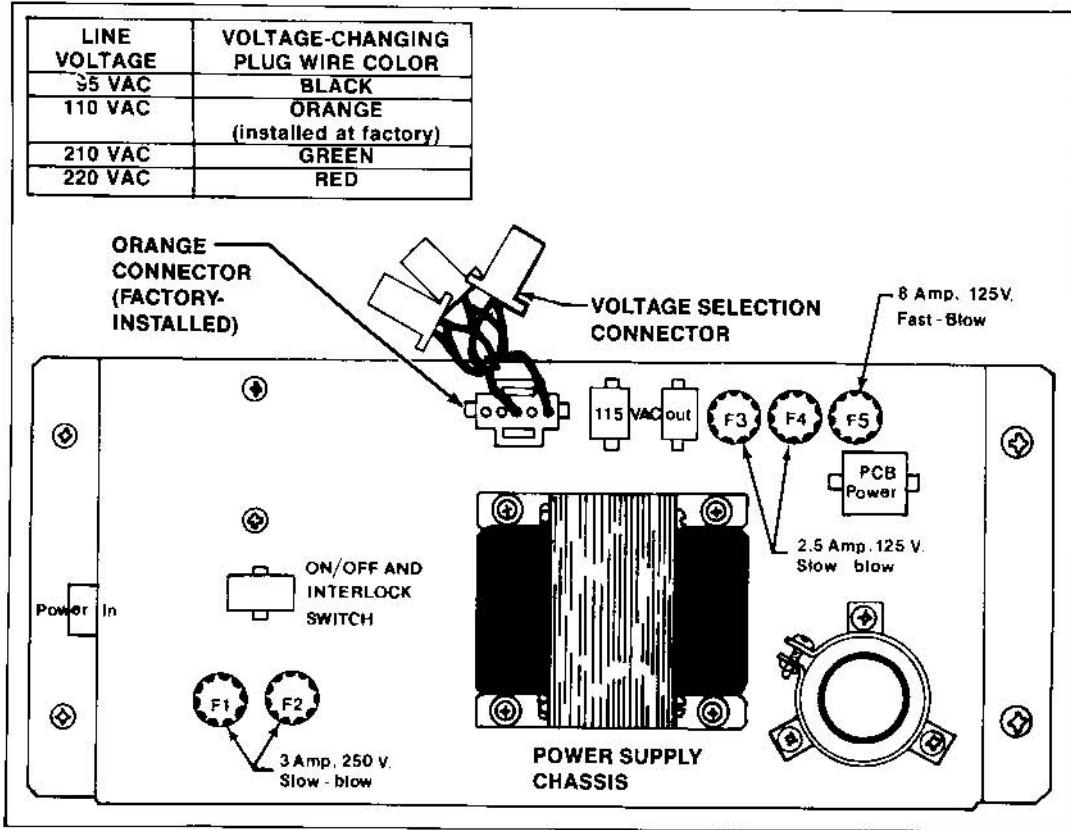

Figure 1-2 Voltage-Selection Connectors
*Figure 1-2 shows the four connectors with one of them already plugged in.